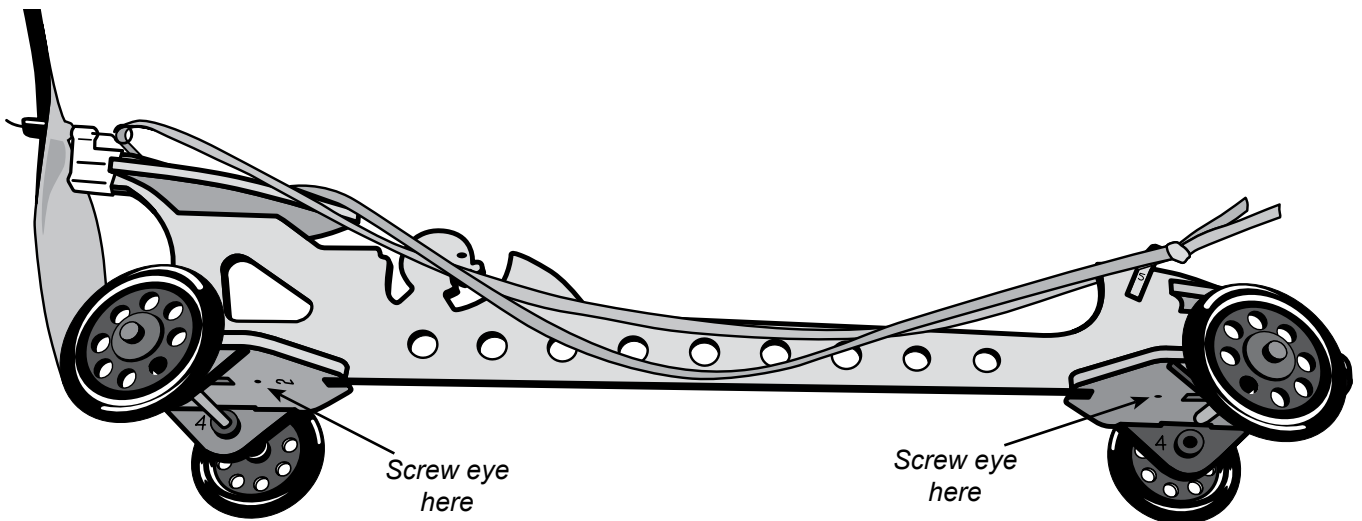

Figure 11
12. Hold your racer so the underside is facing toward you. There is one small starter hole on each end of the racer. One hole is on Part 2, and the other is on Part 3 (Figure 11). Find the two screw eyes.
14. Tie the two ends of your piece of competition rubber in a tight knot. Hook the unknotted end on the small metal loop on the propeller. Hook the knotted end of the rubber over Part 5 as shown above (Figure 11).